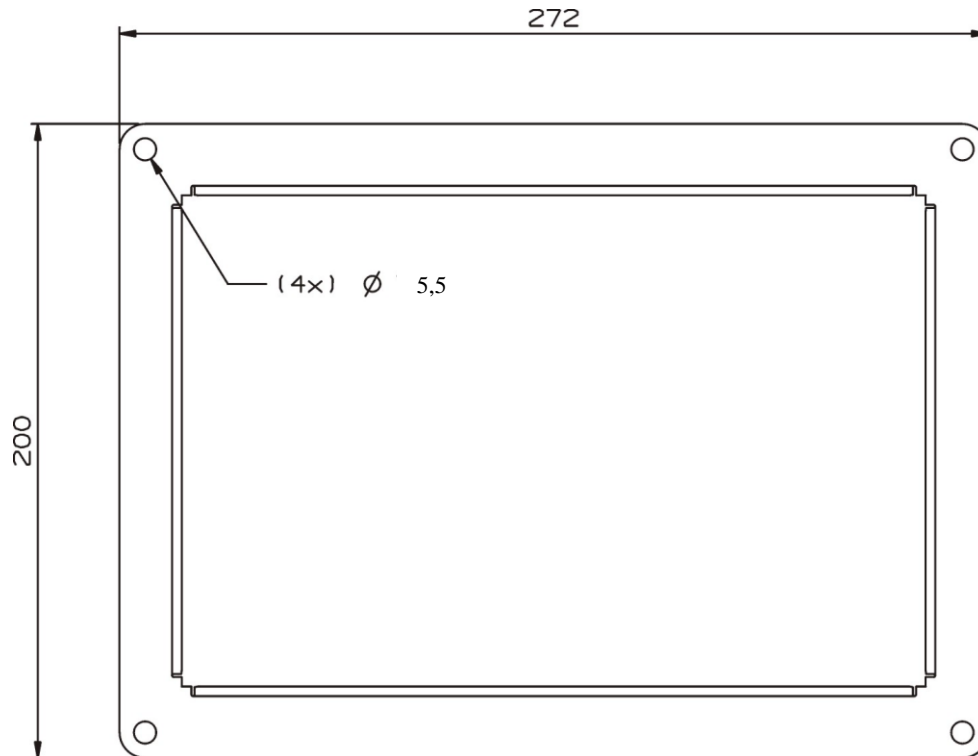
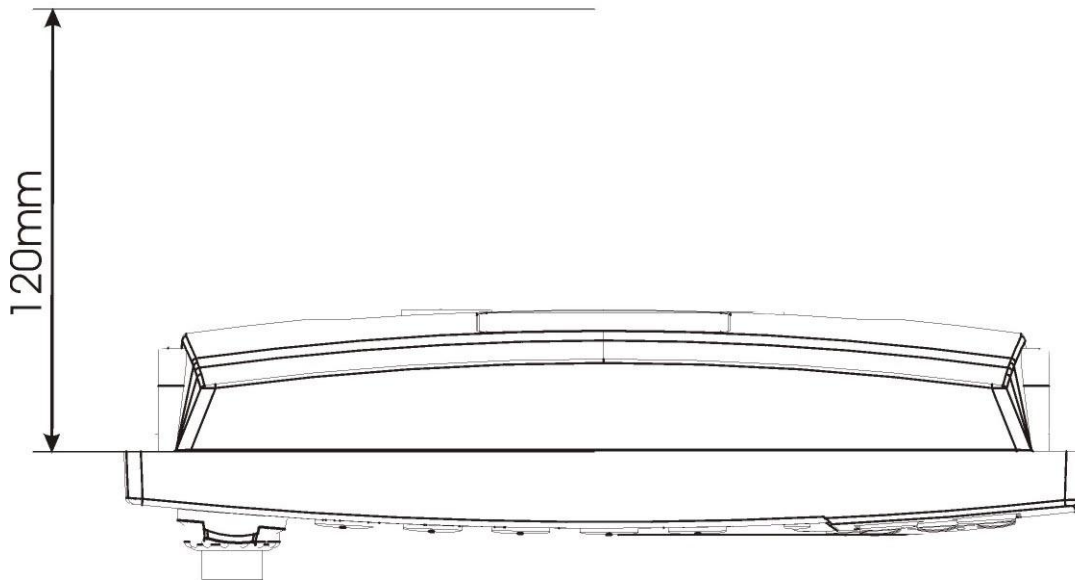

Figure 4-4: Panel mount frame dimensions
Figure 4-5: Clearance distance behind the display
1. Determine where to install the R4 Display, see Figure 4-4 below for dimensions. Make sure that there is enough depth behind the panel, see Figure 4-5. Please note that the signal cable has a maximum bending radius of 10 centimeters.